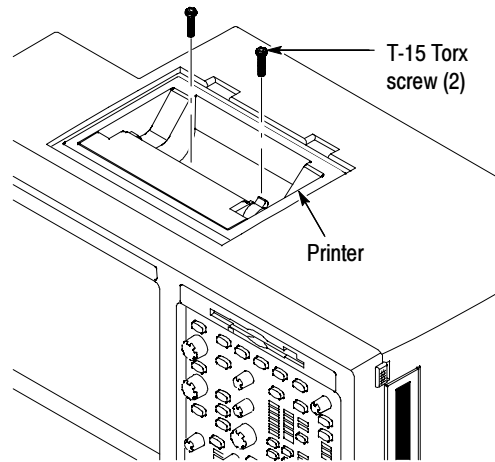

Figure 2: Printer screw mounting
- b. Remove the accessory tray or internal printer (two T-15 Torxdrive screws). See Figure 2, on page 11.